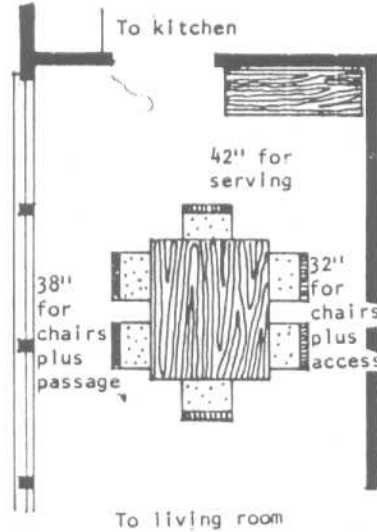

Fig. 1 Dining room for 6-person, 3-bedroom living unit.
- Figures 1 to 6 show the minimum requirements of the U.S. Department of Housing and Urban Development.